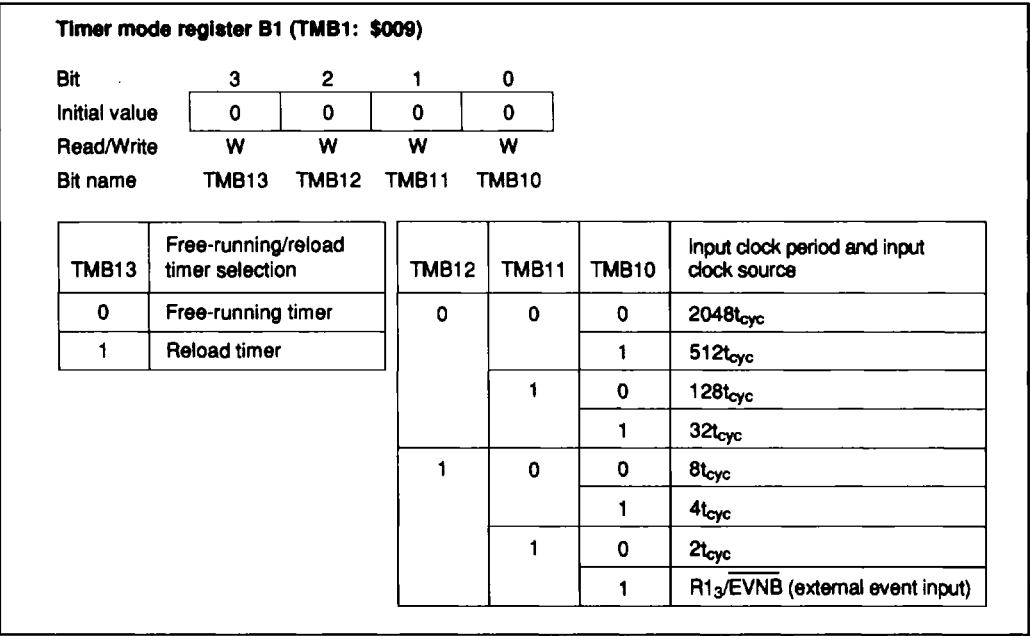

Figure 47 Timer Mode Register B1 (TMB1)
T: Input clock period to counter (figures 47, 55 and 63)
- Timer mode register B1 (TMB1: \$009): Four-bit write-only register that selects the free-running/reload timer function, input clock source, and the prescaler division ratio as shown in figure 47. It is reset to \$0 by MCU reset.